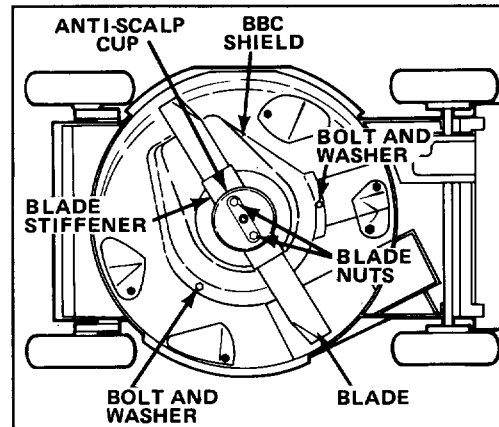

Figure 31
4. Remove (2) blade nuts, anti-scalp cup, blade stiffener, blade, and (3) bolts and washers securing BBC shield to mower deck (Fig. 31).
6. Reinstall BBC shield with (3) bolts and washers, blade, blade stiffener, anti-scalp cup, and (2) blade nuts.